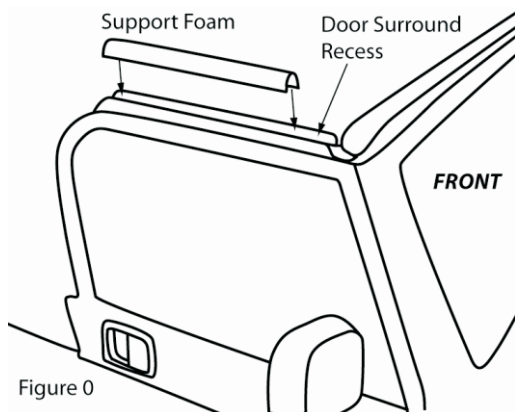

Figure 0
- Step 4.** Insert Foam Supports into top portion of Door Surround recess, by folding the foam lengthwise in half into an inverted U shape. Place the foam securely into the recess so the foam is round at the top to support the soft top. See Figure 0.